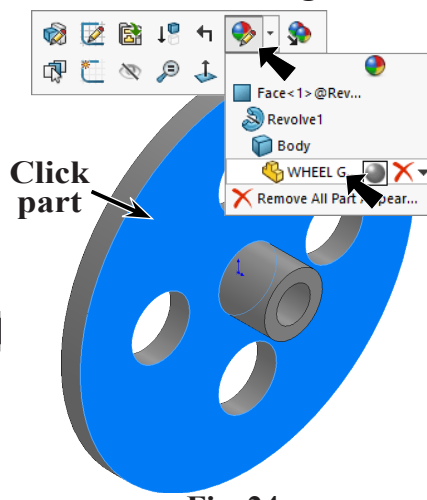

Fig. 24
- Step 1. Click the part, click **Appearance Callout** on the context toolbar and click **WHEEL GT-F**, Fig. 24.